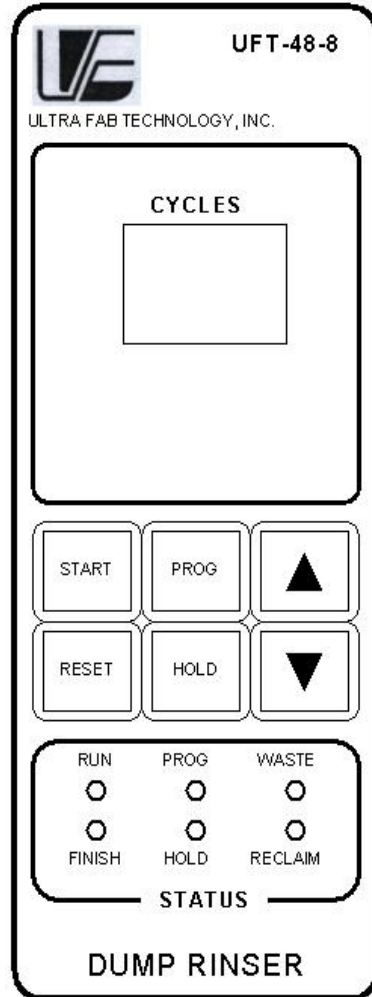

Figure 2
UFT-48-8 DUMP RINSER (Figure 2)
- 9.5.2 Press RESET (if status light is blinking), and then START button to activate the dump rinse cycle (see Figure 2 for keypad schematic).